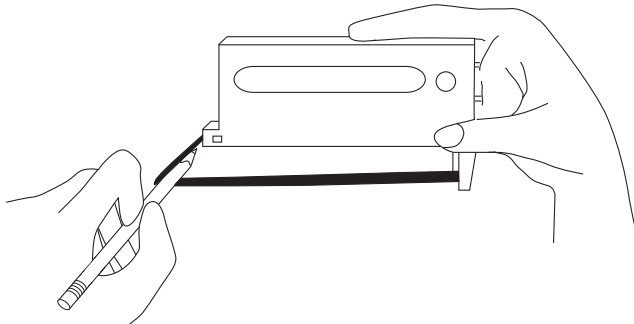

Figure 2-1. Use a pencil to pull extra ribbon from the cartridge before installing
2. Use a pencil to pull a few extra inches of ribbon out of the ribbon cartridge (see Figure 2-1).